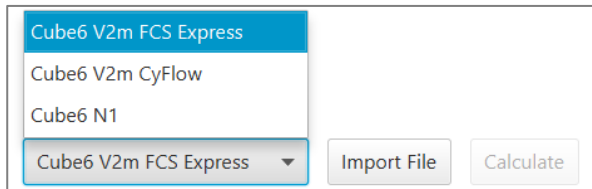

Figure 26. Excerpt from the *Plate Layout* workspace
2. In the *Plate Layout Cube6 V2m FCS Express* workspace, select *Import File* and then select the previously generated .csv files (see Figure 26).